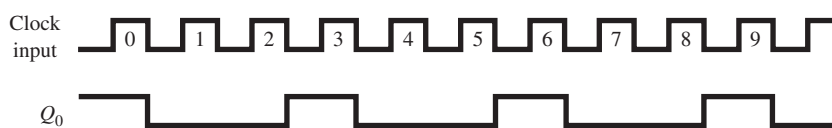

Figure P9
9. How many flip-flops are required to produce the waveform shown in Figure P9 at the Q_0 output of a ring shift counter?